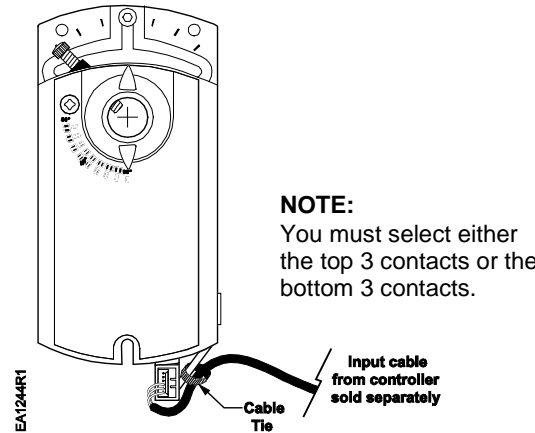
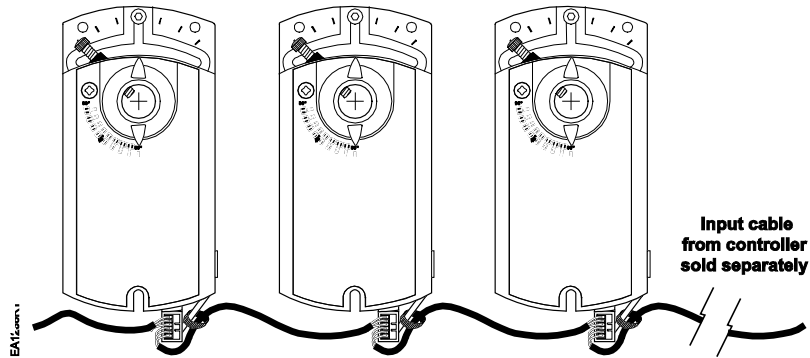

Figure 30. Input Cable Installed in Bottom Three Contacts.
Figure 31.
The input cable (purchased separately) brings power and a control signal to the first actuator in a daisy chain configuration. See Figure 30 and Figure 31.
2. Secure the cabling to the actuator bracket with a cable tie. (See Figure 30.)